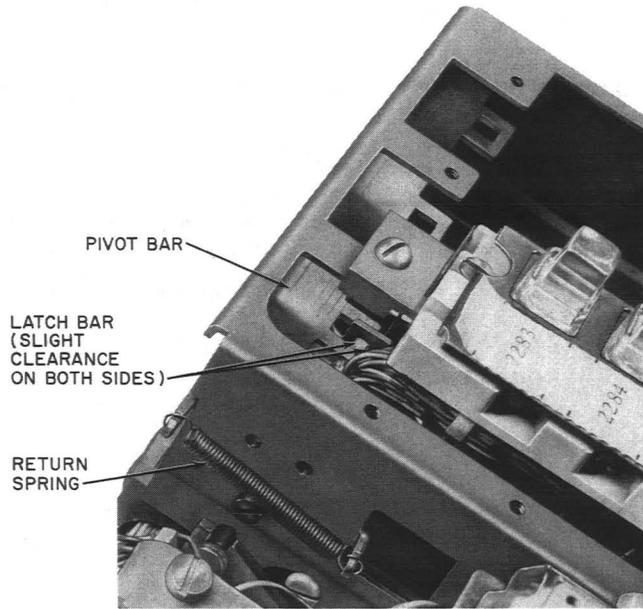

Fig. 2—Positioning 590 and 650 Series Keys
Before installing additional keys or replacement keys, check for free pivot bar motion and proper return spring action (Fig. 2).
(5) Loosen the screws of the (reference) key. With no buttons down and the latchbar held in, shift the reference key until latchbar notch is centered over edge of pivot bar (Fig. 2). Tighten screws while maintaining key and latchbar position.
(6) Moving from left to right, progressively position and check each key relative to the reference key as in (3) and (4).